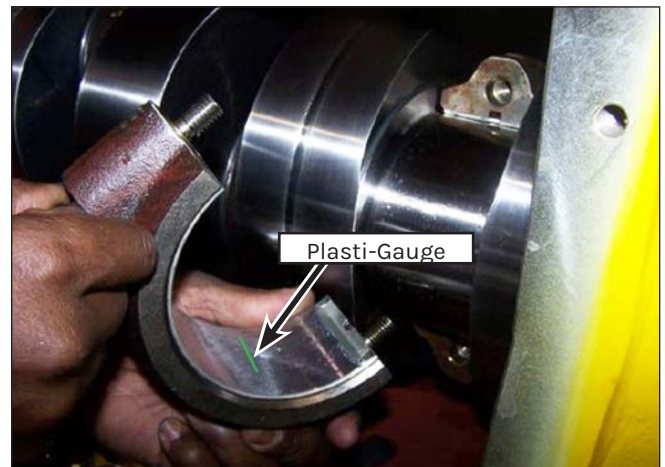

Figure 159: Plasti-Gauge Installation.
2. Install a small strip of plasti-gauge onto the end cap bearing (Figure 159).